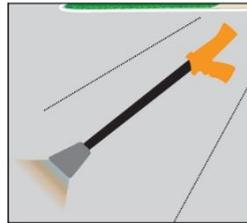

Figure 3: Remove moisture
3. Ensure that no moisture is present prior to positioning the material. Surface moisture is not often visible on the pavement so you should assume that it is present. Remove moisture by drying the application area with a propane fueled torch such as the Magnum, or Flint 2000EX™ Heat Torch. *See Figure 3.*